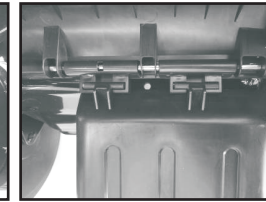
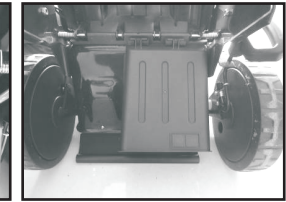

Fig.10B
Fig.10C
2. Fit the rear discharge chute into the relative holes, making sure it is securely in place.(Fig.10B/Fig.10C)